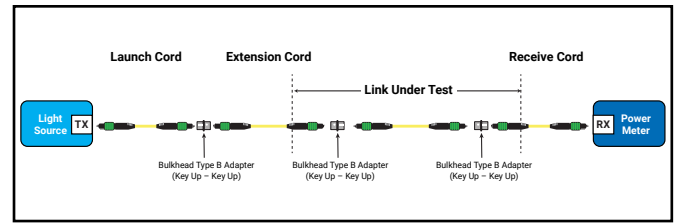

Figure 11d: Pinned-pinned link testing configuration
7. Connect the extension cord and Link Under Test per diagram below (Figure 11d).